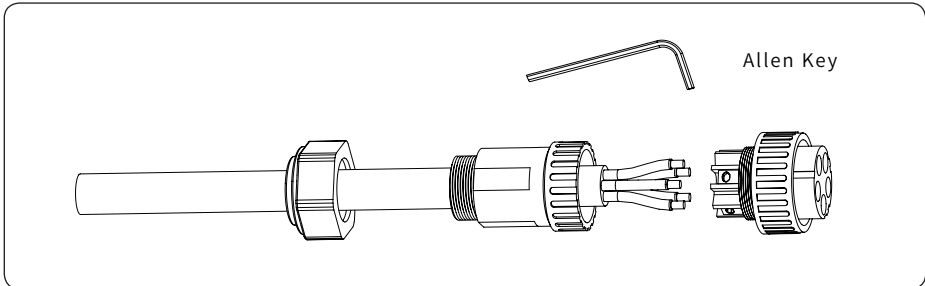

Figure 4-15
3) Insert the stripped end of the five wires into the appropriate hole of the terminal head by following the rules: yellow green wire to PE port, red or brown fire wires to L ports (no requests for the sequence of three fire wires), and blue or black wire to the N port. Please try to pull out the cable to make sure it's well connected. As shown in Figure 4-15: